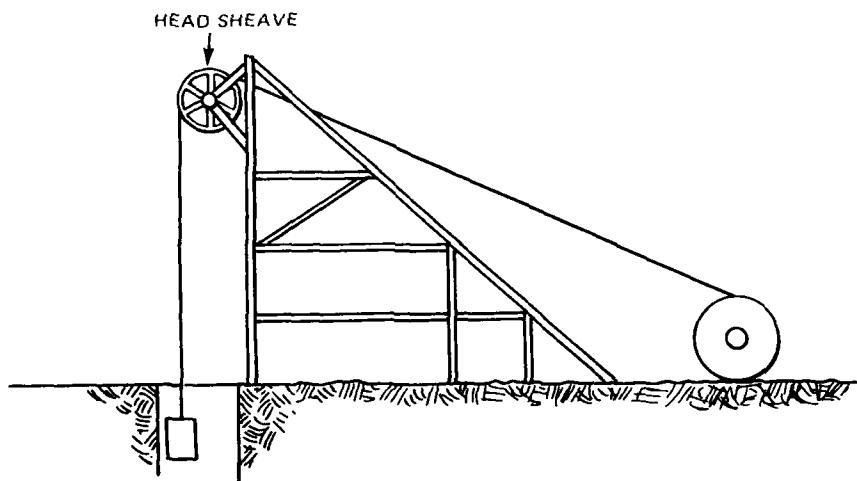

Figure 3
- A head sheave which supports the rope and the conveyance at the head of the shaft. (See Figure 3)